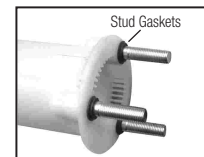

Figure 7
9) At this point the piston cylinder itself and/or piston cylinder stud gaskets can be replaced. The piston cylinder stud gaskets must be oriented correctly or leakage may result (Figure 7).